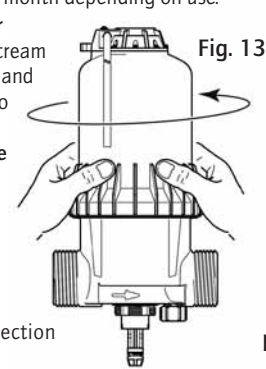

Fig. 13
- Unscrew the bell-housing by hand and remove it (Fig. 13).